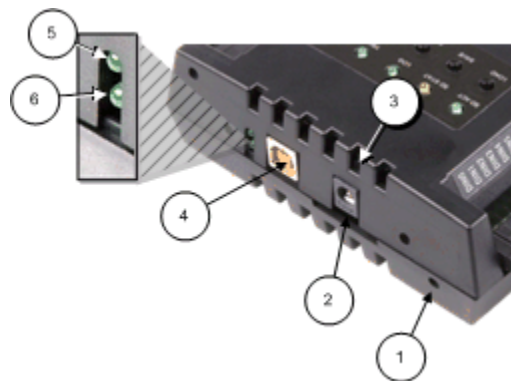

Figure 3. LGR-5325 connectors, SD card slot, LEDs, and reset button
- To power the LGR-5325 from an external power source, using the power connector, connect the 9 VDC, 1 A external power supply to the external power connector (see Figure 3 on page 11), and plug the adapter into an electrical outlet.
To connect the LGR-5325 to your system, turn the computer on, and connect a USB cable from the LGR-5325's USB connector (see Figure 3 on page 11) to either a USB port on the computer or an external USB hub connected to the computer.
- ① USB and power connectors and LEDs, SD slot, and reset button.
- ② Function buttons and LEDs.
- ③ Screw terminals and LEDs
The components indicated by ① are identified in Figure 3 and explained below.